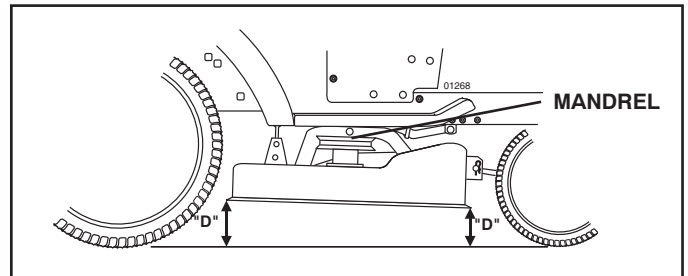

Fig. 34
**FRONT-TO-BACK ADJUSTMENT** (See Figs. 34 & 35)